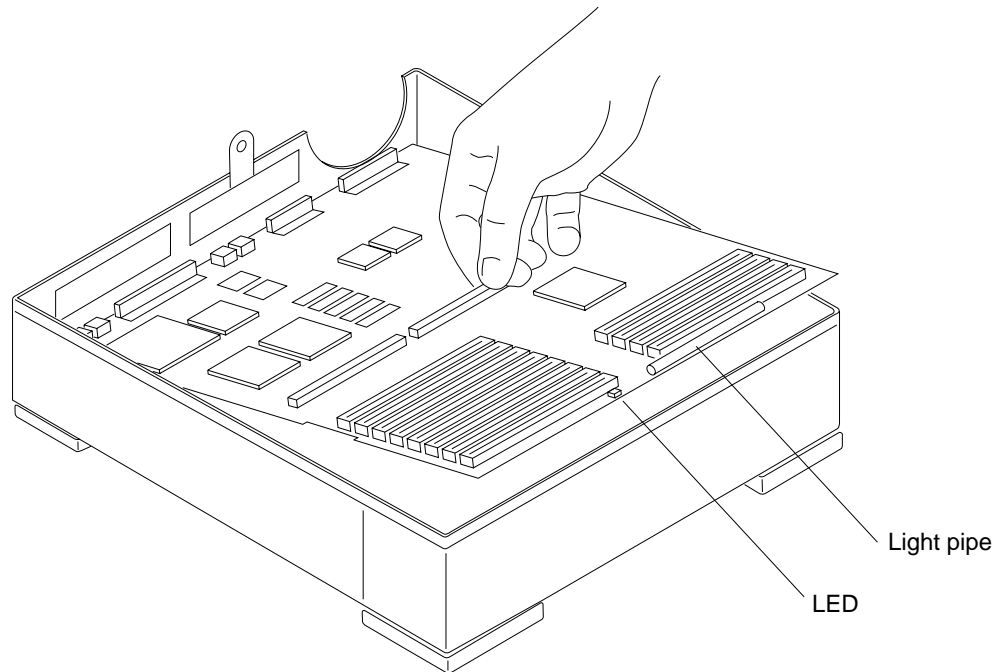

Figure 4-18 Removing and Replacing the Main Logic Board
- 18. Grasp the board by the SBus connectors with both hands. Raise the front of the board and lift it out toward the front of the unit (see Figure 4-18). Avoid handling any of the delicate electronic components or touching any of the main logic board's traces.**
1. Grasp the unit top (see Figure 4-18).